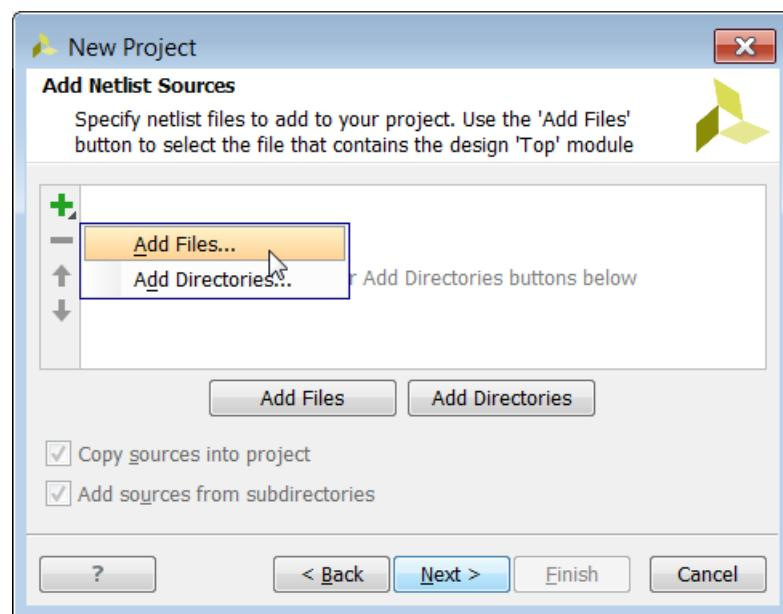

Figure 11-6: Adding Files to the Post-Synthesis Project
3. In the Add Netlist Sources Page click on the '+' sign to **Add Files**, as seen in Figure 11-6, page 147.